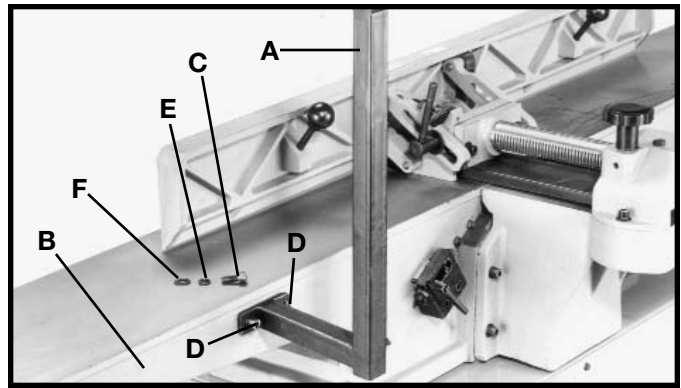

Fig. 22
1. Align the two holes in the switch mounting bracket (A) Fig. 22, with the two holes (D) in the back of the infeed table (B). Place an M8.1 lockwasher (E) Fig. 22, then an M8 flat washer (F), on an M8x1.25x16mm hex socket head screw (C). Insert the screw through the hole (D) Fig. 22, in the switch mounting bracket (A) and thread the screw into the tapped hole in the back of the infeed table (B), and tighten securely. Repeat this process for the remaining hole in the switch mounting bracket and the infeed table.